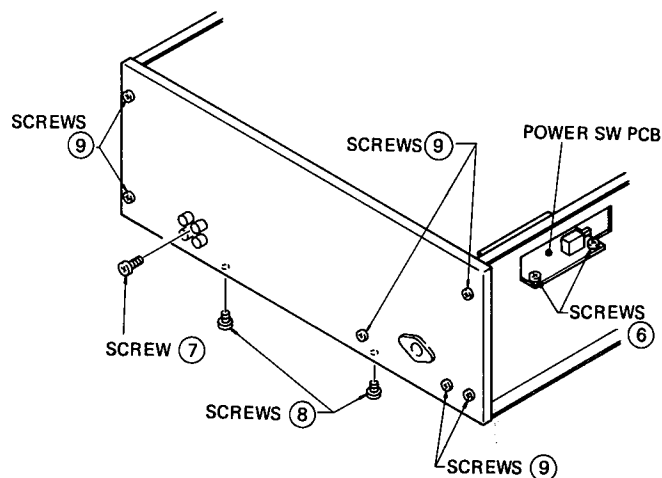

Fig. 4
- 2) Remove the 2 screws (6) shown in Fig. 4 and remove the Power Switch P.C.B.
- 3) Remove the 1 screw (7), 2 screws (8) and 6 screws (9) shown in Fig. 4 and remove the rear panel.